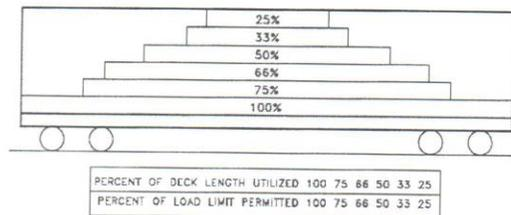

Fig. 3.5 Load distribution on typical center beam flatcar
3.5.1 Fig. 3.5 refers only to cars originally constructed as center beam cars.
3.5.2 The center beam flatcar is not a general purpose flatcar. Therefore, if the full length of the deck is not utilized, loads must be reduced in accordance with Fig. 3.5, except where stenciling on the car indicates car construction is capable to withstand load concentrations over less than the full deck length or permission is given by carrier and car owner.